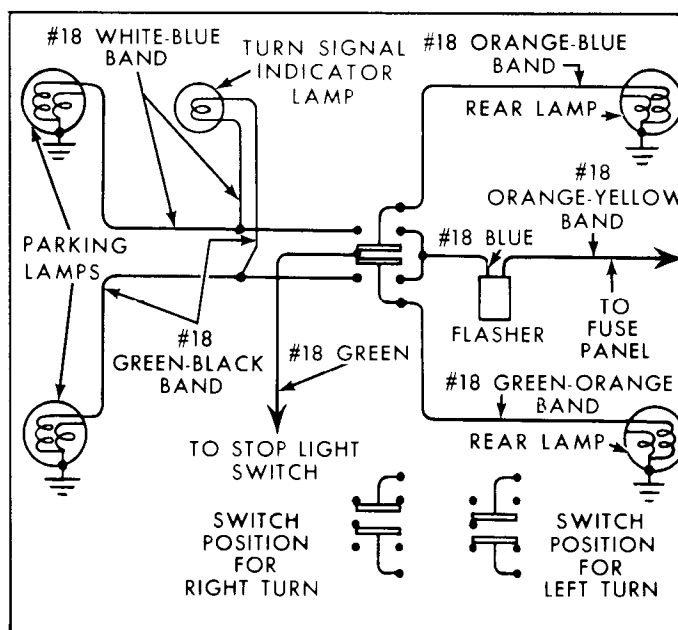

Fig. 10B-18—Turn Signal Wiring Diagram—(60C-7642)
The turn signal wiring diagram is shown in figure 10B-18.
5. Remove the turn signal switch to steering column retaining screws and pull the switch away from the steering column flange. See figure 10B-21.